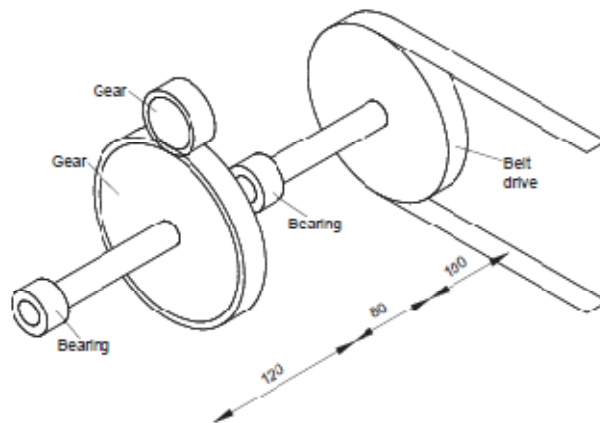

Fig:1
6. In a design of transmission shafting determine a sensible minimum nominal diameter for the drive shaft illustrated in Figure:1 consisting of a midmounted spur gear and overhung pulley wheel. The shaft is to be manufactured using 817M40 hot rolled alloy steel with UTS 1000MPa, YS 770MPa and Brinell Hardness approximately 220 BHN. The radius of the fillets at the gear and pulley shoulders is 3mm. The power to be transmitted is 8 kW at 900 rpm. The pitch circle diameter of the 20° pressure angle spur gear is 192 mm and the pulley diameter is 250mm. The masses of the gear and pulley are 8 and 10 kg, respectively. The ratio of belt tensions should be taken as 2.5. Profiled keys are used to transmit torque through the gear and pulley. A shaft nominal reliability of 90 per cent is desired. Assume the shaft is of constant diameter for the calculation.